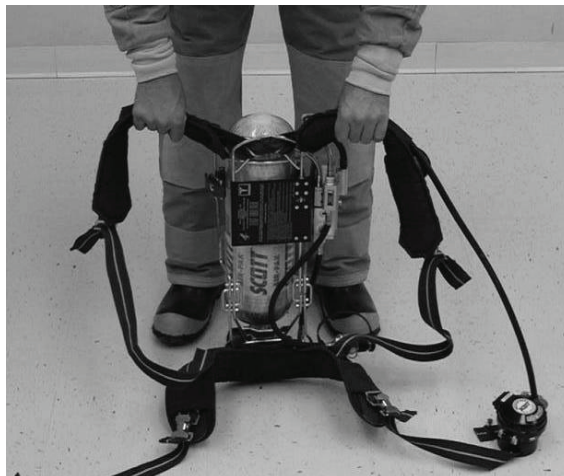

Figure 2-2. Position Backframe and Harness Assembly for Coat-Style Method
- (1) Don SCBA using the coat-style method as follows:
- (a) Position the backframe and the harness assembly with cylinder valve on the deck, the cylinder assembly facing the user, and fully extended side straps facing away as shown in figure 2-2.
- (b) Grasp the shoulder straps as shown in figure 2-2.